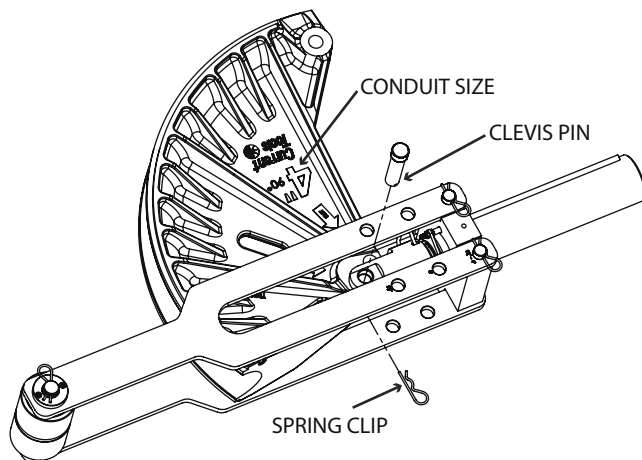

FIGURE 10
7. Select the shoe for the size conduit you will be bending. Place the shoe between the frame sides as shown, with the conduit size facing upward. Align the clevis with the correct hole on the shoe for the type conduit you will be bending (Rigid/IMC or EMT). Insert the clevis pin and secure with a spring clip (see Figure 10).